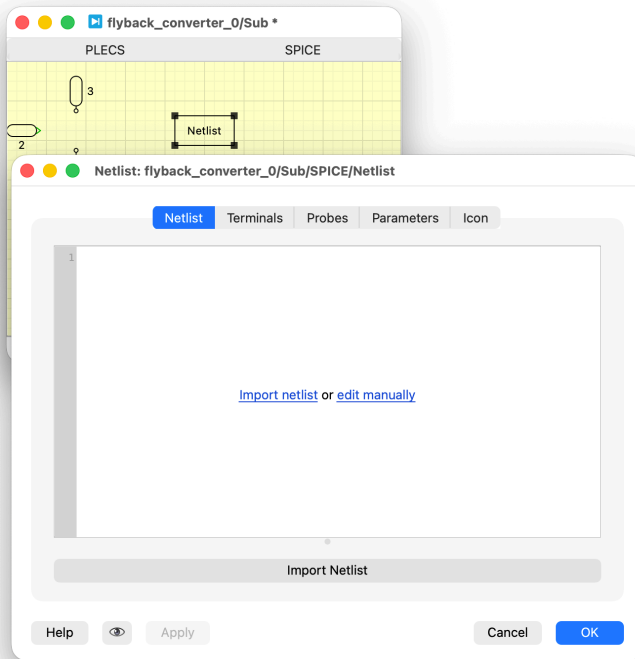

Figure 4: Netlist window
- 7 **Double-click** on the **Netlist** component to open the netlist window as shown in Fig. 4. **Click on Import Netlist**, select the desired netlist library file, e.g., Infineon_CoolMOS_C3_600V_Spice.lib.